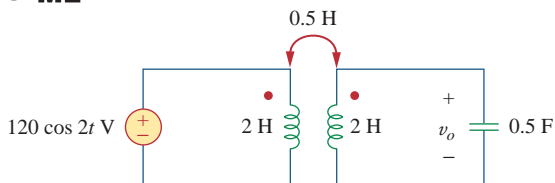

Figure 13.79
13.10 Find v_o in the circuit of Fig. 13.79.